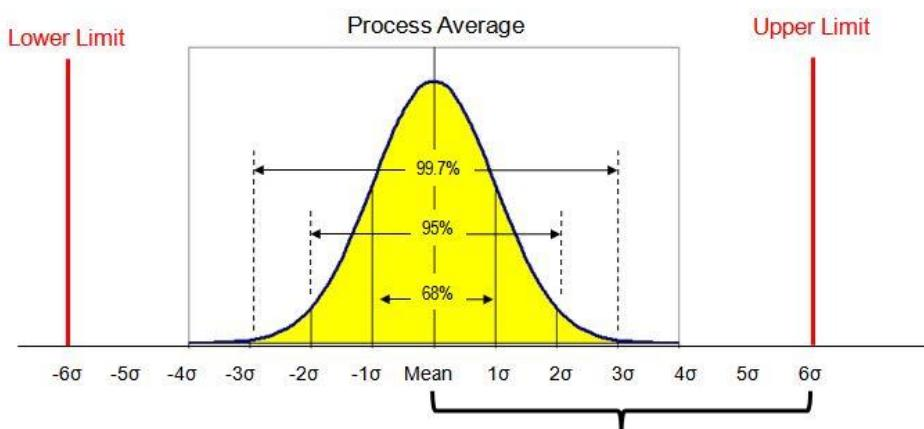

Figure 1: Sig Sigma Process with Mean and Upper/Lower Specification Limits
- If a defect is defined by specification limits (accept vs. reject outcomes) of a process, then a six sigma process has a process mean (average) that is six standard deviations from the nearest specification limit. This provides enough buffer between the process natural variation and the specification limits. (Figure 1)